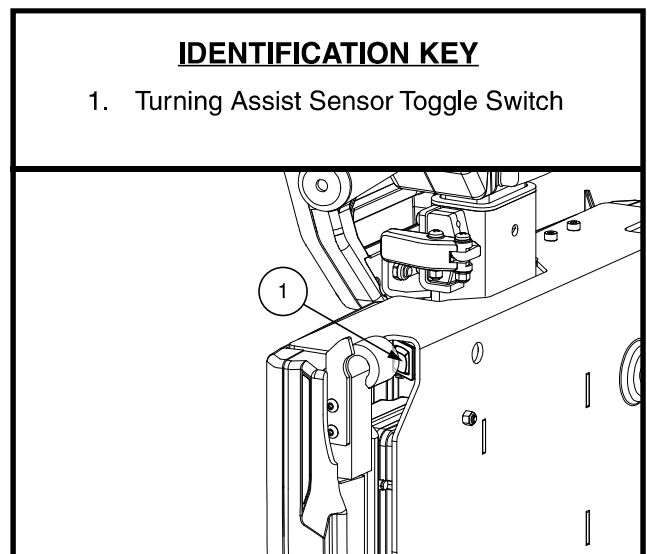

Figure 11. Turning Assist Sensor
Your scooter is equipped with a turning assist sensor that helps control the speed of your scooter when negotiating turns. The turning assist sensor switch is engaged at the factory and can be disengaged using a toggle switch. See figure 11.
1. Locate the turning assist sensor toggle switch. See figure 11.